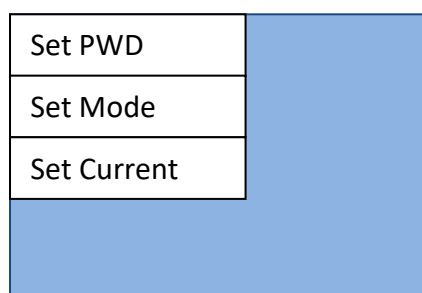

Figure 23 - Password, mode of use and power configuration screen
- 2) Figure 23 to appear.
- 5) Figure 23. Two screens (Figure 25a and Figure 25b) will open in sequence within seconds of each other. Do not press any keys while waiting for the screen shown in Figure 25b to appear.
- 8) Figure 23. Two screens (Figure 26a and Figure 26b) will open in sequence within seconds of each other. Do not press any keys while waiting for the screen shown in Figure 26b to appear.